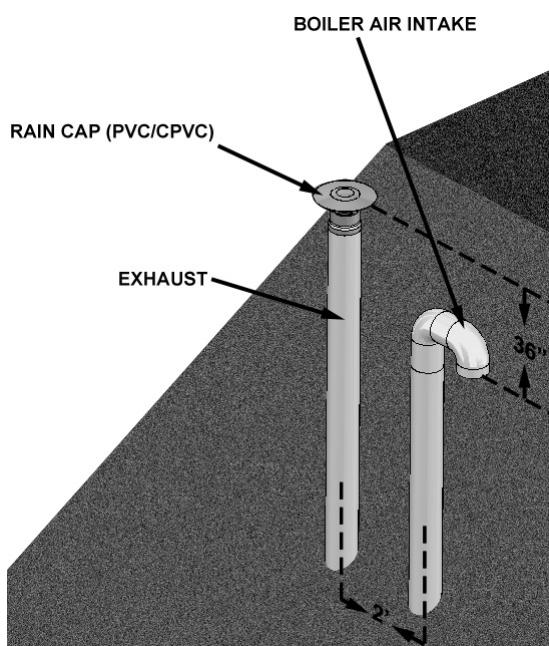

FIGURE 35. PVC/CPVC AIR/VENT TERMINATION - VERTICAL
4. The vent piping must terminate in an up-turned rain cap as shown in Figure 35. When the vent termination uses a rain cap as illustrated in Figure 35, maintain at least 36" (914 mm) above the air inlet. The air inlet pipe and vent pipe can be located in any desired position on the roof, but must always be no further than 2 feet (0.6 m) apart and with the vent termination at least 1 foot above the air intake.
6. If installing both intake air and vent piping in a Direct Vent configuration vertically through the roof, ensure that all exterior vertical clearance requirements shown in Figure 35 are being maintained. These clearances and those cited by local and national codes must be maintained.
3. Space the air and vent holes to provide the minimum spacing shown in Figure 35 and Figure 36.